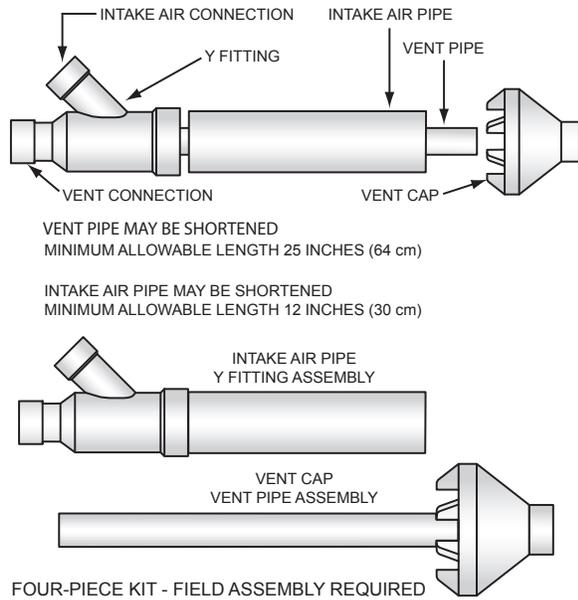
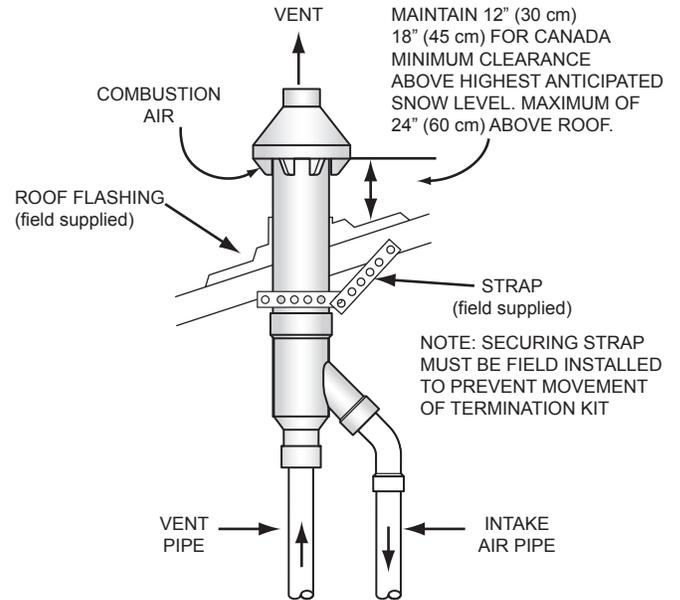
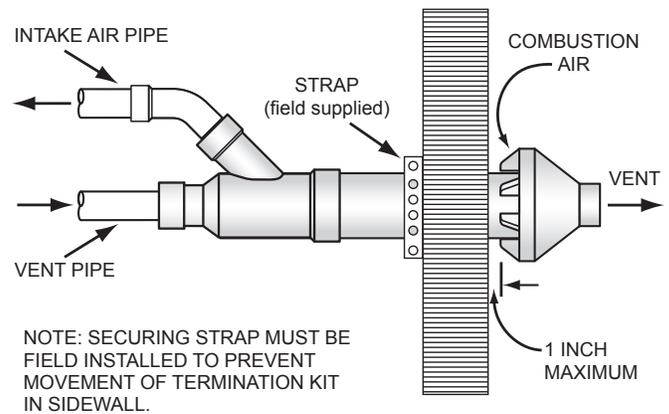

Figure 28. Concentric Termination Kit
Figure 29. Concentric Termination - Vertical Installation
Figure 30. Concentric Termination - Side-Wall Installation
3. When installing a concentric termination vertically through the roof; ensure that all exterior vertical clearance requirements for the concentric termination, shown in **Figure 29** (page 31) are being maintained. These clearances and those cited by local and national codes must be maintained.
- See **Figure 28** (page 31) for the minimum lengths allowed for the concentric termination.
Assemble and install the concentric termination. Refer to **Figure 28**, **Figure 29** and **Figure 30** for these instructions: